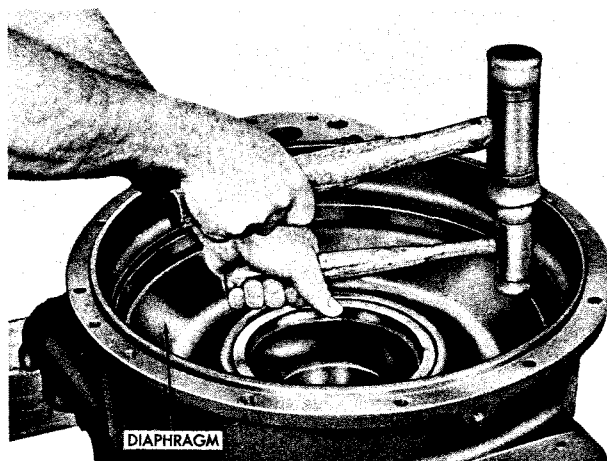

Fig. VI-13. Installing diaphragm into converter housing
(2) Coat the outer diameter of a new oil seal 2 with Permatex and install it into a new diaphragm 3. Coat the outer diameter of diaphragm 3 with Permatex.
(3) Position the torque converter housing 34 (B, foldout 8) on the work table with the front side up. Install the seal and diaphragm into the housing. Place a soft hammer on the shoulder near the outer diameter of the diaphragm and tap on the hammer to start the diaphragm (fig. VI-13). Move the hammers around the circle of the diaphragm until the diaphragm is seated.